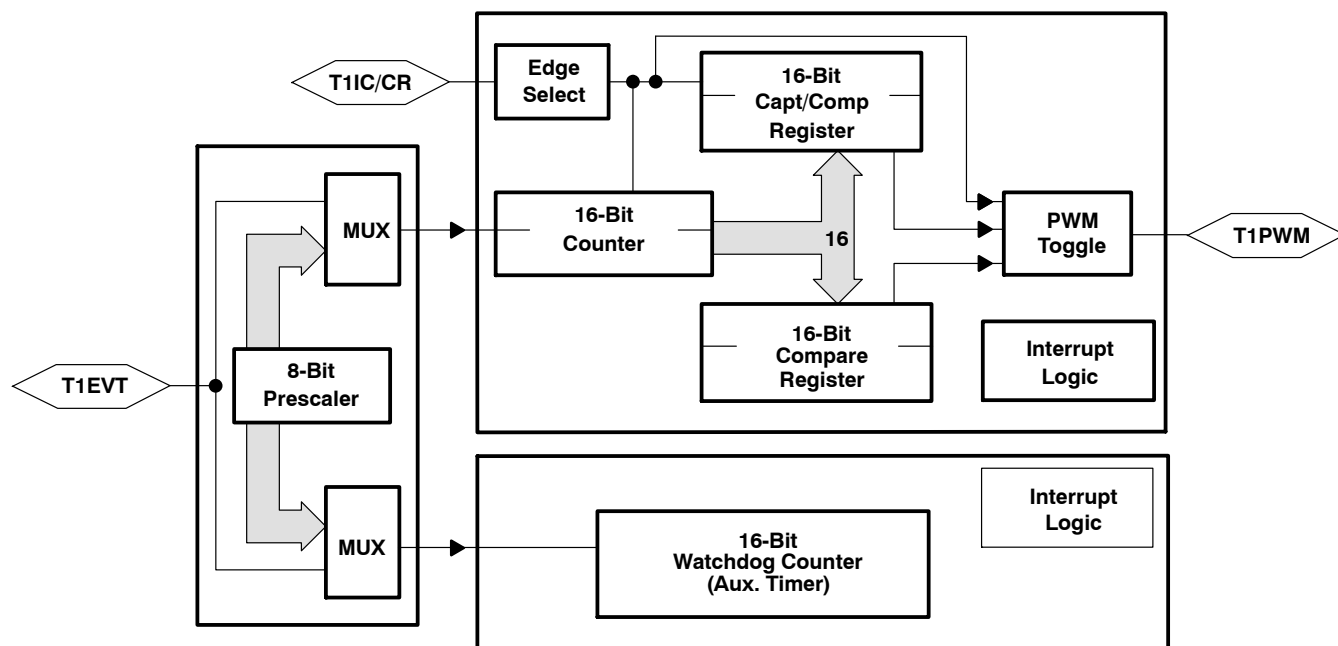

Figure 6. Timer 1 Block Diagram
The programmable timer 1 (T1) module of the TMS370CxAx provides the designer with the enhanced timer resources required to perform real-time system control. The T1 module contains the general-purpose timer and the watchdog (WD) timer. The two independent 16-bit timers, T1 and WD, allow program selection of input clock sources (real-time, external event, or pulse accumulate) with multiple 16-bit registers (input capture and compare) for special timer function control. The T1 module includes three external device pins that can be used for multiple counter functions (operation mode dependent) or used as general-purpose I/O pins. The T1 module block diagram is shown in Figure 6.